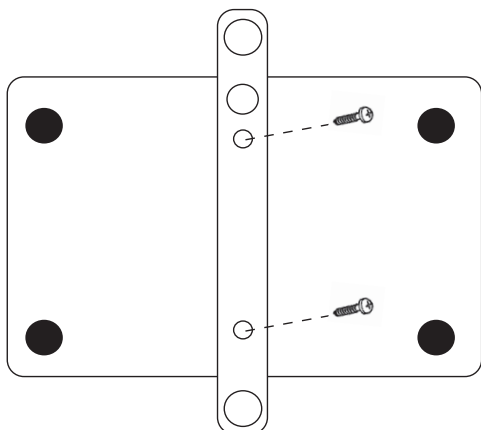

Figure 6.
Step 1. Insert the two M3 x 4 machine screws through the wall bracket and into the rear of the transmitter module, as shown in Figure 6.